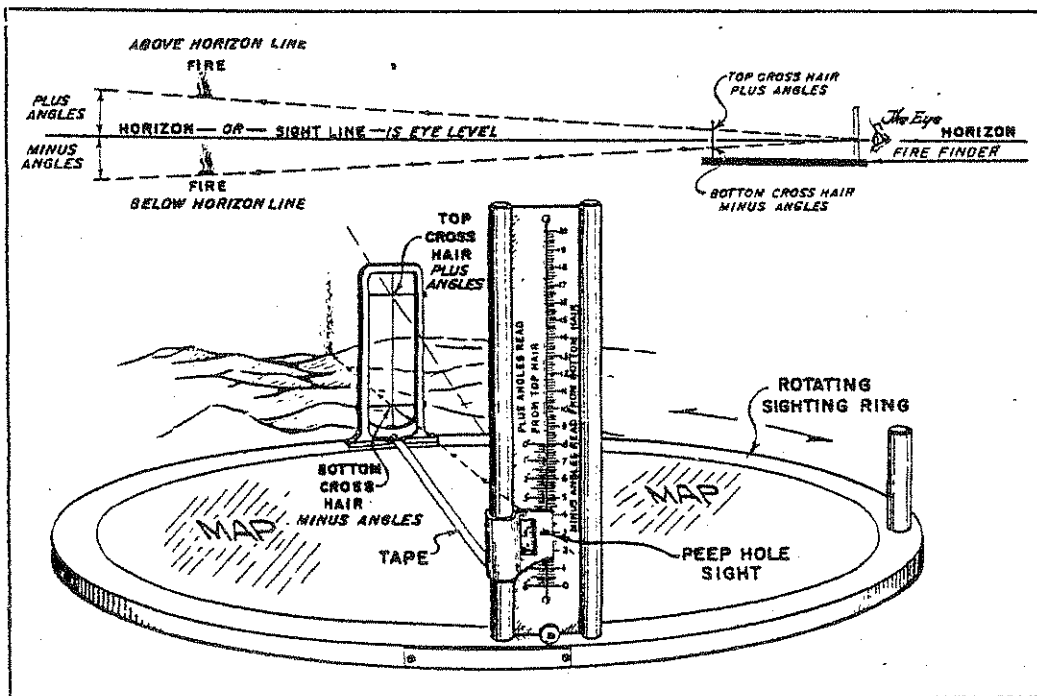

Figure 6. --How to read vertical angle.
b. Obtaining Vertical Angle Reading. The vertical angle is measured by the sliding metal piece on the rear sight. Figure 6 shows a closeup of the rear sight mechanism. There are two sets of figures marked on this sight; one reads "Plus angle read from top hair" and the other reads "Minus angle read from bottom hair."
The vertical reading pictured in figure 6 (using bottom hair scale) is -3° . Each mark between numerals is 10 minutes. The minus figure (-) indicates that origin of the fire is below the lookout level. Most of the readings will be a minus figure as fires generally start at the lower, more heavily used elevations below the lookout point.